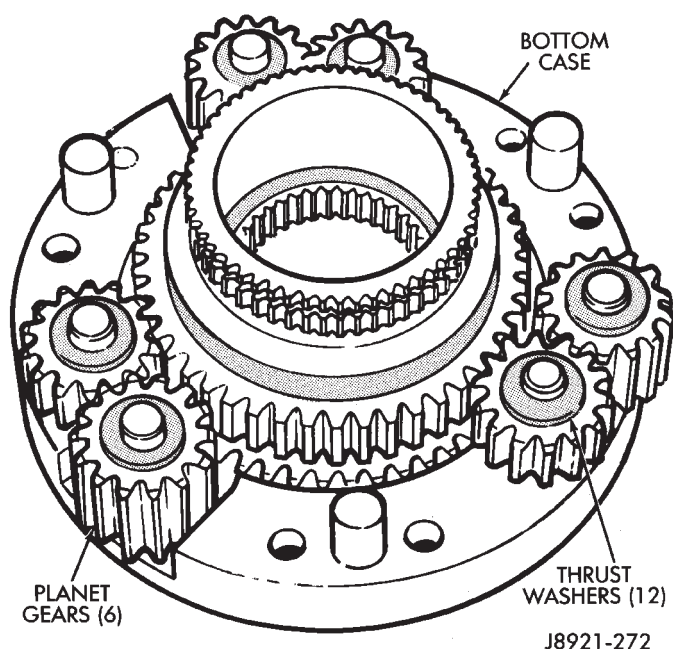

Fig. 35 Removing Planet Gears And Thrust Washers
(51) Remove thrust washers and planet gears from case pins (Fig. 35).